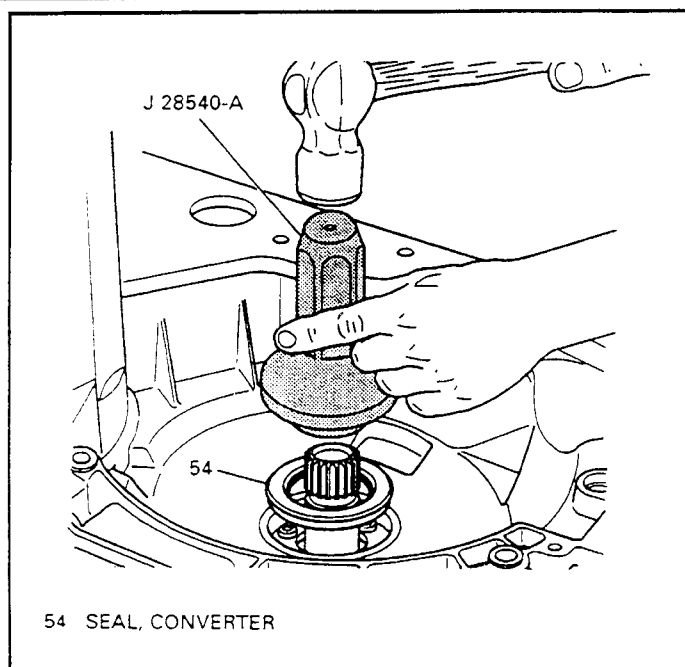

Figure 88
12. Install a new torque converter seal (54) using the installation tool J-28540-A, as shown in Figure 88.